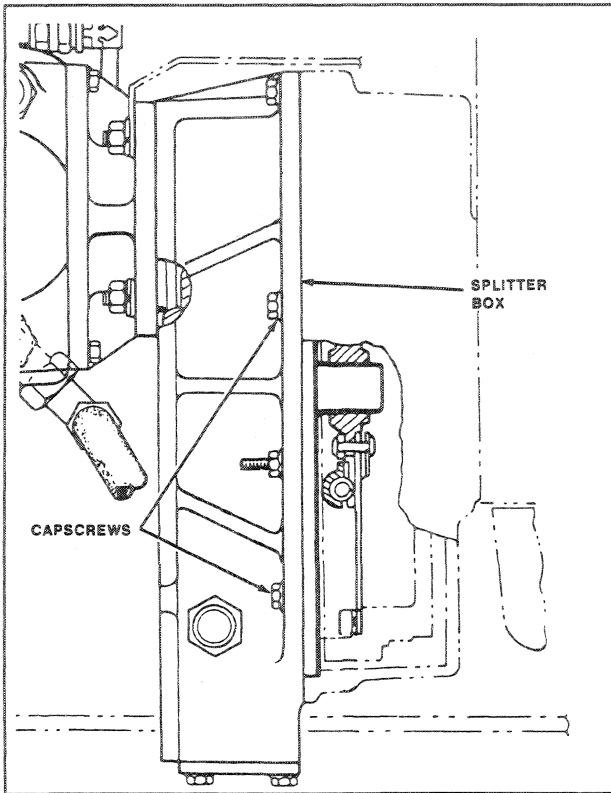

FIGURE 2-14: Splitter Box Mounting
- Remove capscrews securing the splitter box to the flywheel housing, ensuring that splitter box weight is supported (Figure 2-14).
18. Raise splitter box until weight is taken off the flywheel housing and slide splitter box back to free it from the flywheel housing and the torsional damper splines. Lower splitter box onto the axle frame. Ensure that it is properly blocked and supported (Figure 2-14).
6. Attach the lifting fixture to the splitter box assembly, and lift the splitter box off the axle frame. Slide the splitter box forward, engaging splines on the torsional damper. Install cap-screws and lockwashers and tighten securely (Figure 2-14).